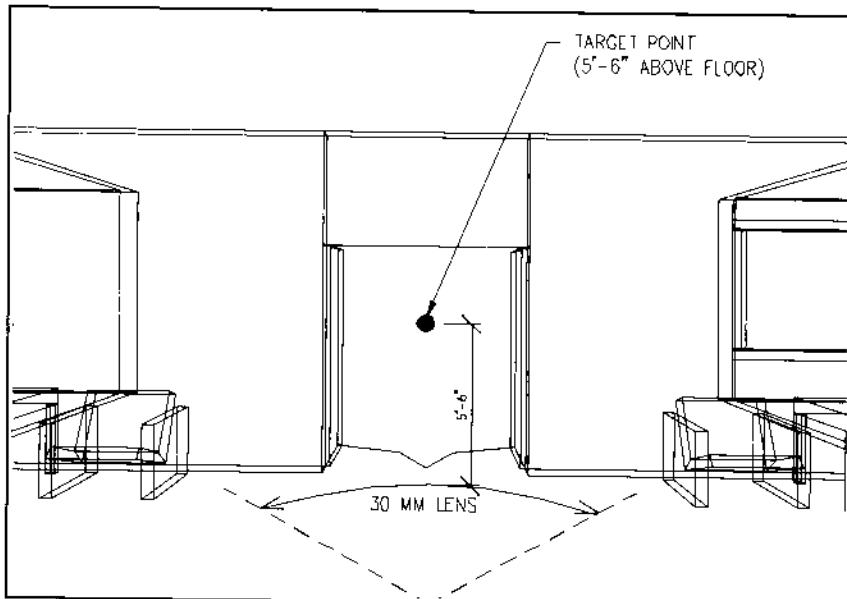

Figure 5.
3. Accept the defaults for eye level at 5'-6", target height at 5'-6" and lens at 30-mm to make the view as shown in Figure 5.
4. The perspective view shown in Figure 5 is created by invoking AutoCAD's Hide command to display the interior perspective.